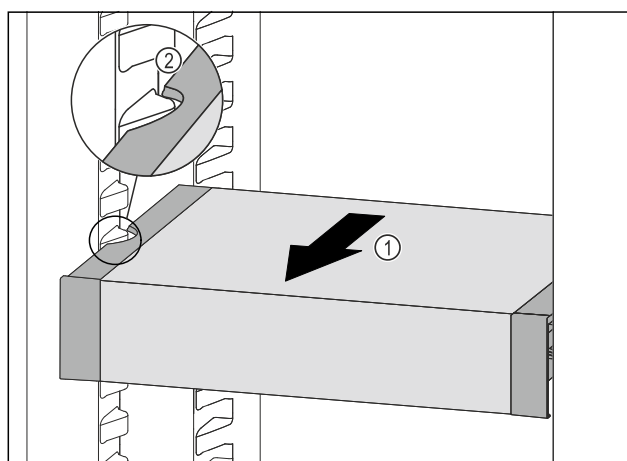

Fig. 116
- Pull VarioSafe forwards *Fig. 116 (1)* until the recesses in the side of the VarioSafe are at the level of the support rib in the fridge section. *Fig. 116 (2)*